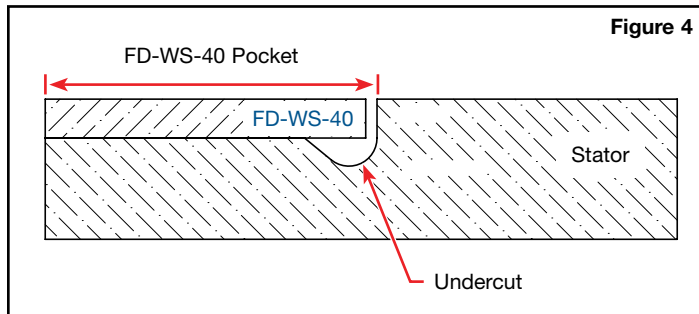
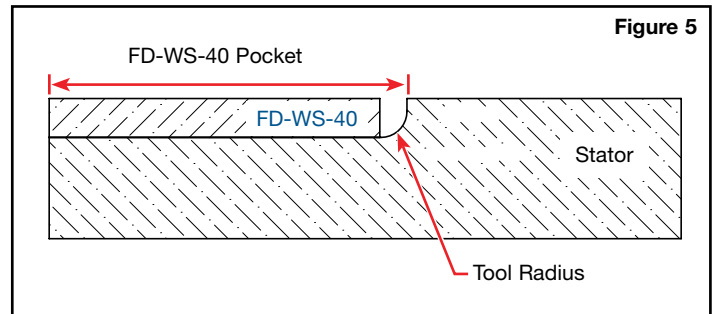

Figure 4
Figure 5
- c. This can be achieved by undercutting the O.D. (Figure 4) or ensuring the tool radius is outside the O.D. of FD-WS-40 (Figure 5).